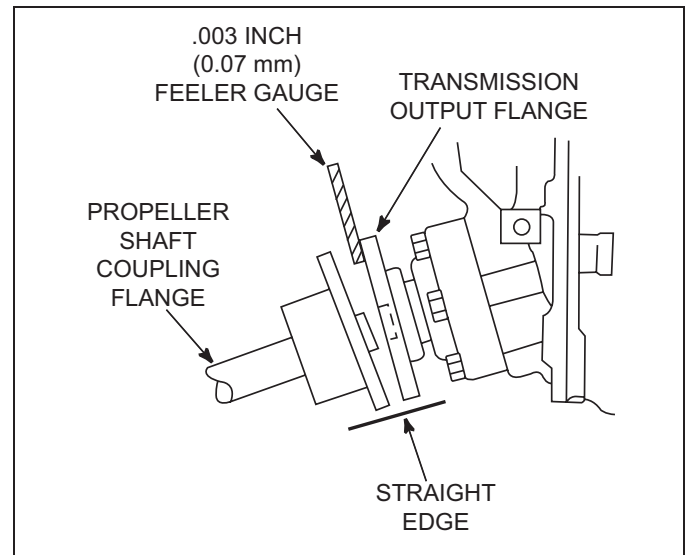

Figure 11-31 Angular Alignment
5. Check for any angular misalignment. Hold coupling faces tightly together by hand and check for a gap between the coupling faces, with a 0.003 in. (0.07 mm) feeler gauge, at 90-degree intervals. (Figure 11-31).